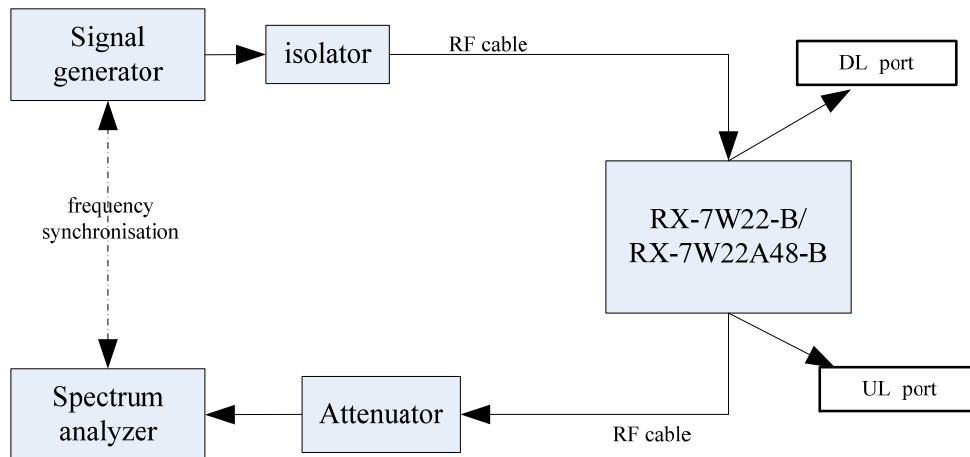
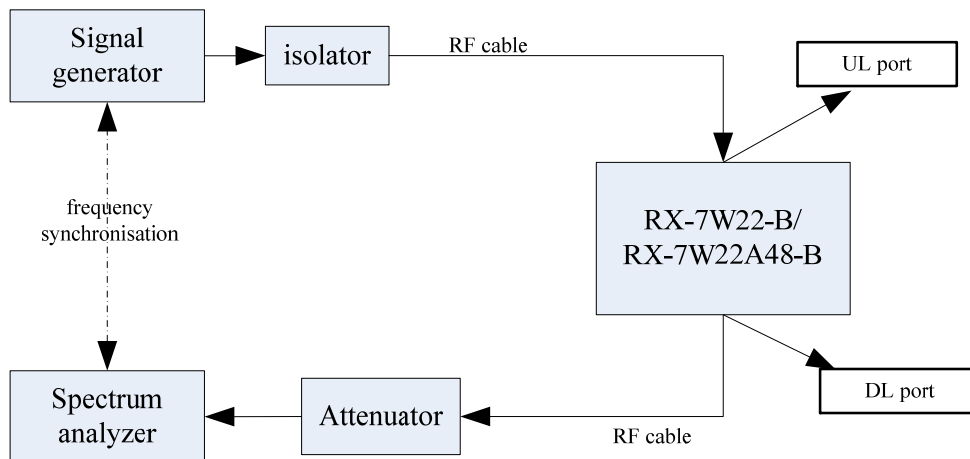

Figure 3: Occupied bandwidth arrangement for Downlink
Figure 4: Occupied bandwidth arrangement for Uplink
- (1) Connect the device as illustrated Figure 3 and Figure 4, when the output power is over the maximum value of the Spectrum Analyzer, add the attenuator to avoid destroying.
- (2) Configure the signal generator to transmit the appropriate test signal associated with the public safety emission designation.
- (3) Configure the signal level to be just below the ALC threshold and maximum gain.
- (4) Connect a spectrum analyzer to the output of the EUT using appropriate attenuation as necessary.
- (5) Set the spectrum analyzer center frequency to the nominal EUT channel center frequency. The span range for the spectrum analyzer shall be between 2 times to 5 times the OBW.
- (6) The nominal RBW shall be 100 Hz for 12.5kHz channel and 300 Hz for 25kHz channel and 100kHz for LTE.
- (7) Set the reference level of the spectrum analyzer to accommodate the maximum input amplitude level.
- (8) Set spectrum analyzer detection mode to peak, and trace mode to max hold.
- (9) Allow the trace to fully stabilize.
- (10) Confirm that the signal is contained within the appropriate emissions mask.
- (11) Use the marker function to determine the maximum emission level and record the associated frequency as f_0 .